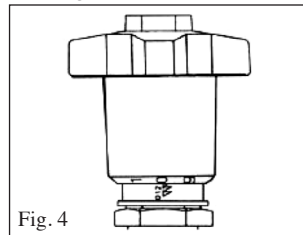

Fig. 4
6. Figure 4 shows a valve setting of 2.0, indicating that the valve is partially open.
Inner Scale (Figs. 4 and 5) – This sleeve has a vertical arrowed scale which indicates the number of full turns the valve has been opened.
Outer Scale (Figs. 4 and 5) – This scale is a micrometer-type scale marked 0–9 at the tapered base of the handwheel. Each gives 1/10th indications for each 360° turn of opening against the indicator line of the inner scale. Connect meter quick-disconnect hoses to metering ports as follows: